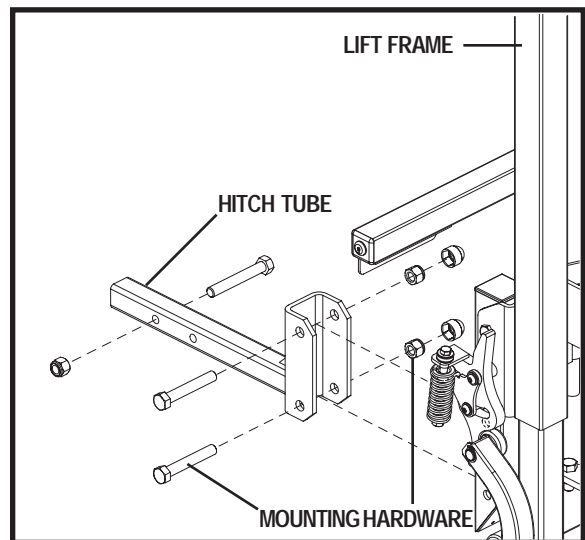

Figure 4. Hitch Tube Assembly
2. Mount the hitch tube to the lift frame using the previously removed mounting hardware. See figure 4.